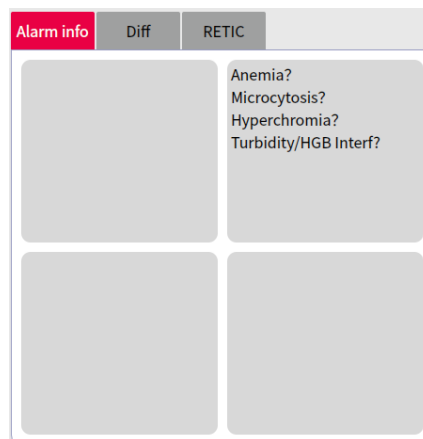

Figure 14 Parameter information
- ② Parameter information display area: Displays the result information for each parameter
- ③ System status area: Displays the next sample ID and current test mode.
- ④ Date display area: Display the current date and time.
- ⑤ Information and graphic display area: Displays prompt information, scatter diagrams, and histograms of parameters.
- a. Click 'Alarm info' to view WBC, RBC, and PLT parameter information, as shown in Figure 14.